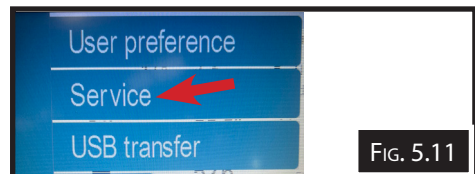

FIG. 5.11
4. Press "Service" Button (Fig 5.11)